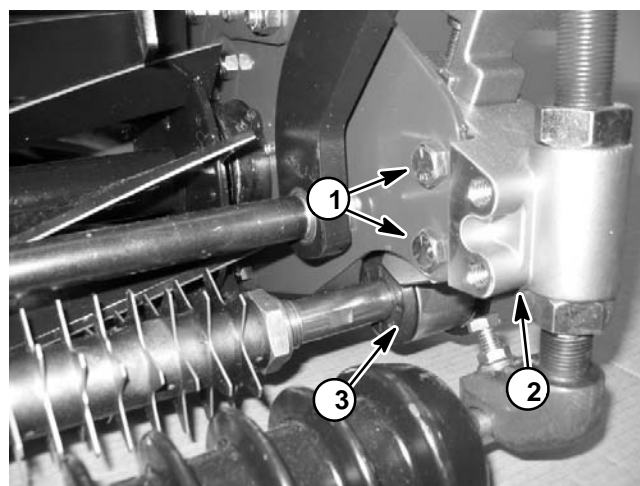

Figure 6
4. Remove the flange nut (item 15) that secures driven pulley (item 16) to groomer shaft. Remove driven pulley from shaft. Locate and retrieve square key (item 25) and washer (item 31) that locates pulley on shaft.
5. Slide pulley spacer (item 19) from shaft.
6. Remove two (2) cap screws (item 26) that secure height of cut assembly (non-drive side) to the cutting unit side plates (Fig. 6). Support groomer to prevent it from falling. Slide height of cut assembly from groomer. Locate and retrieve two (2) flat washers (item 32).
9. Secure driven pulley to groomer shaft with flange nut (item 15).
11. Check that seal guards just touch height of cut assembly (Fig. 6). Reposition seal guard(s) if necessary.